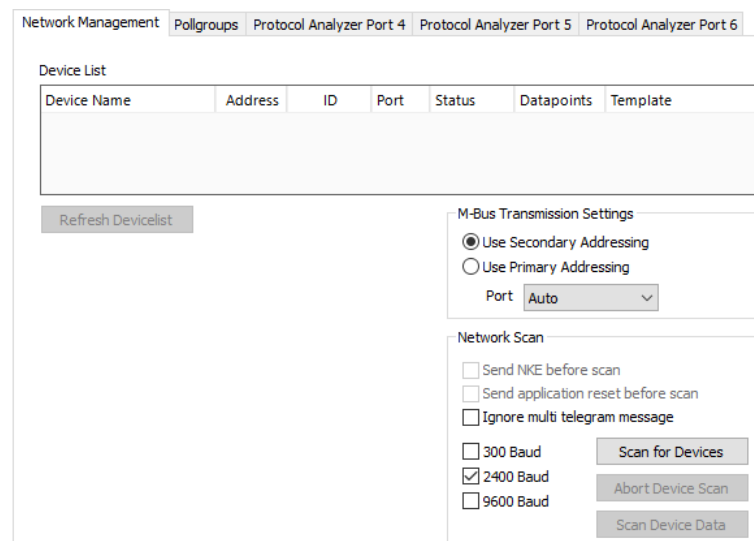

Figure 127: M-Bus Network Scan dialog.
2. Right click on the Folder **M-Bus Network Scan** and select **Scan M-Bus Network**. This opens the **M-Bus Management** Dialog containing the scan options shown in Figure 127.